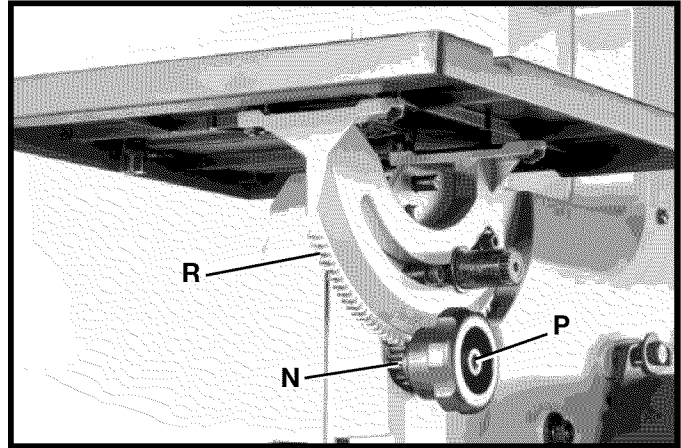

Fig. 10
6. Position pinion knob (N) Fig. 10, onto the back of saw so that the teeth on the pinion knob (N) engage the teeth on the trunnion (R). Fasten in place with special screw (P) and spring using the supplied 4mm wrench.